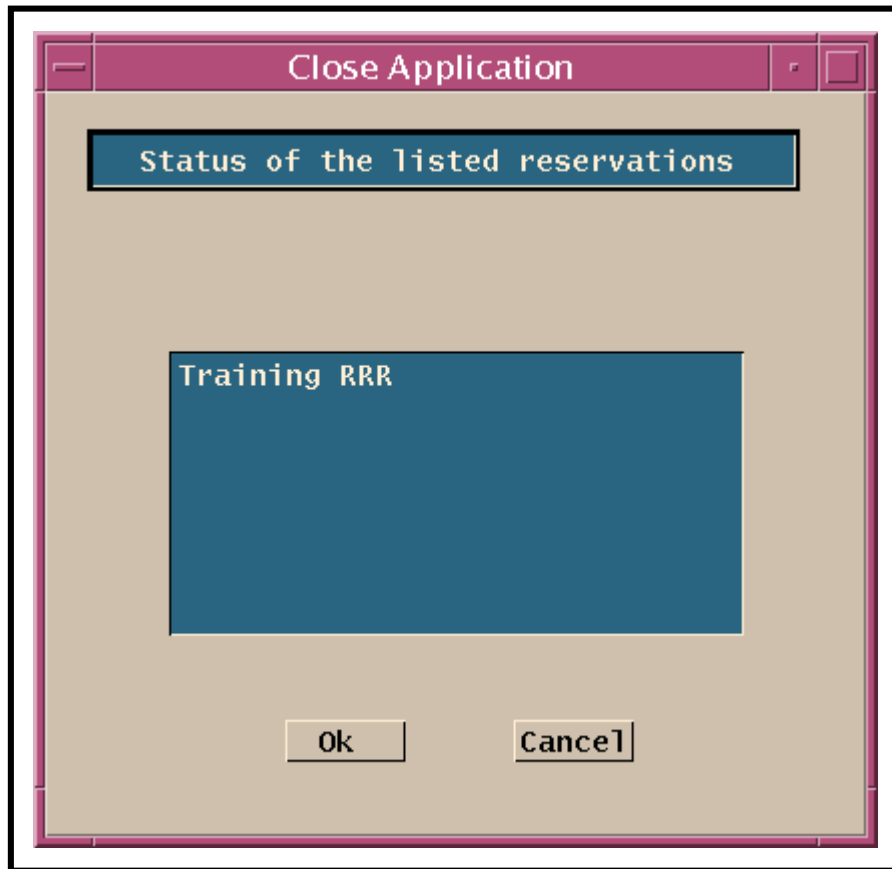

Figure 6. Close Application Pop-Up Dialogue Box
- If there are any resource reservation requests with a status of “approved” listed on the **Resource Scheduler**, a **Close Application** pop-up dialogue box (Figure 6) is displayed with a message “Status of the listed reservations” and a list of the resource reservation requests with “approved” status.